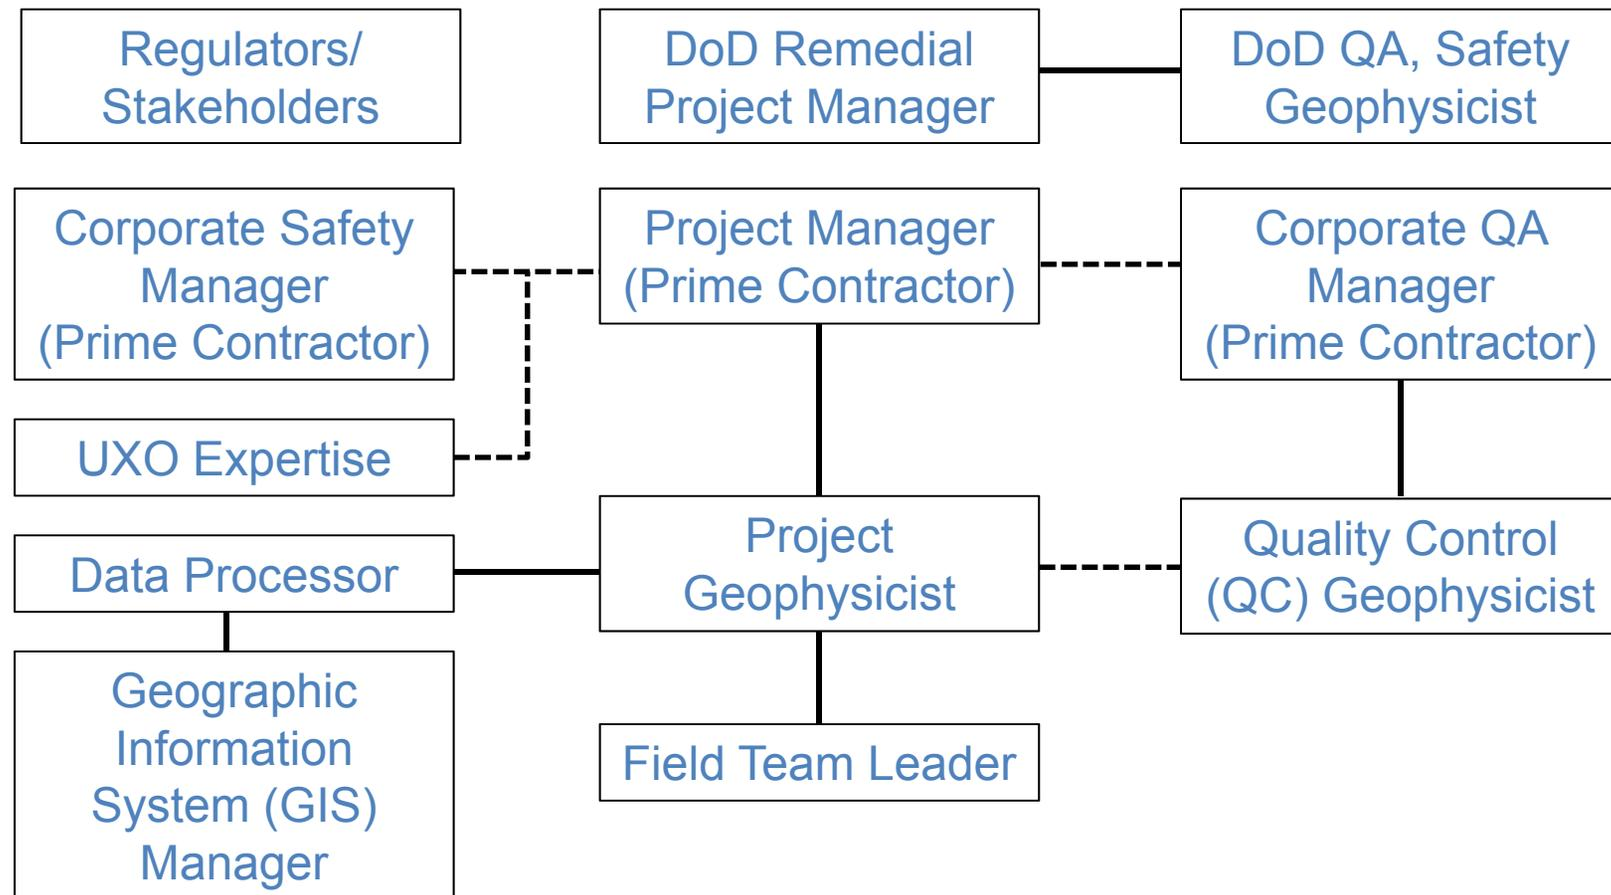

Figure 3-1: Geophysical Survey Organization
- Figure 3-1: Geophysical survey organization